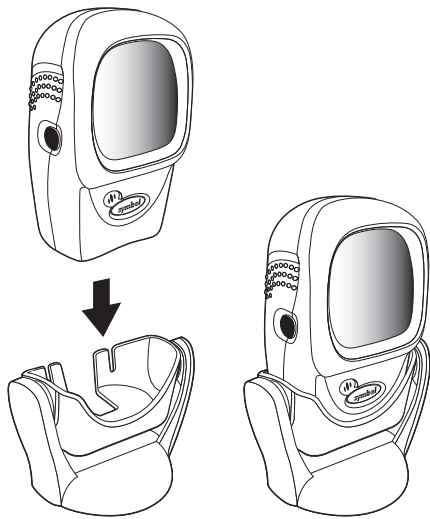
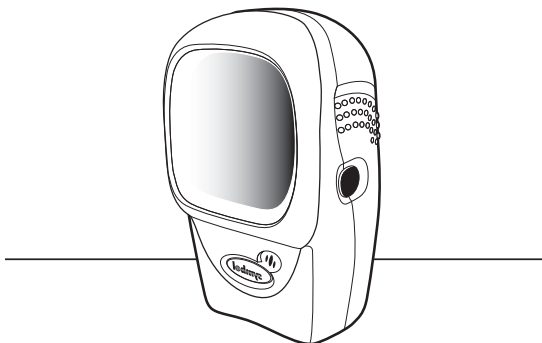

Figure 2-3 Scanner in the Stand
Figure 2-4 Scanner Standing Alone
2. Insert the scanner in the optional hands-free stand by placing the front of the scanner into the stand's cradle (see Figure 2-3), or place the scanner on a flat surface (see Figure 2-4).